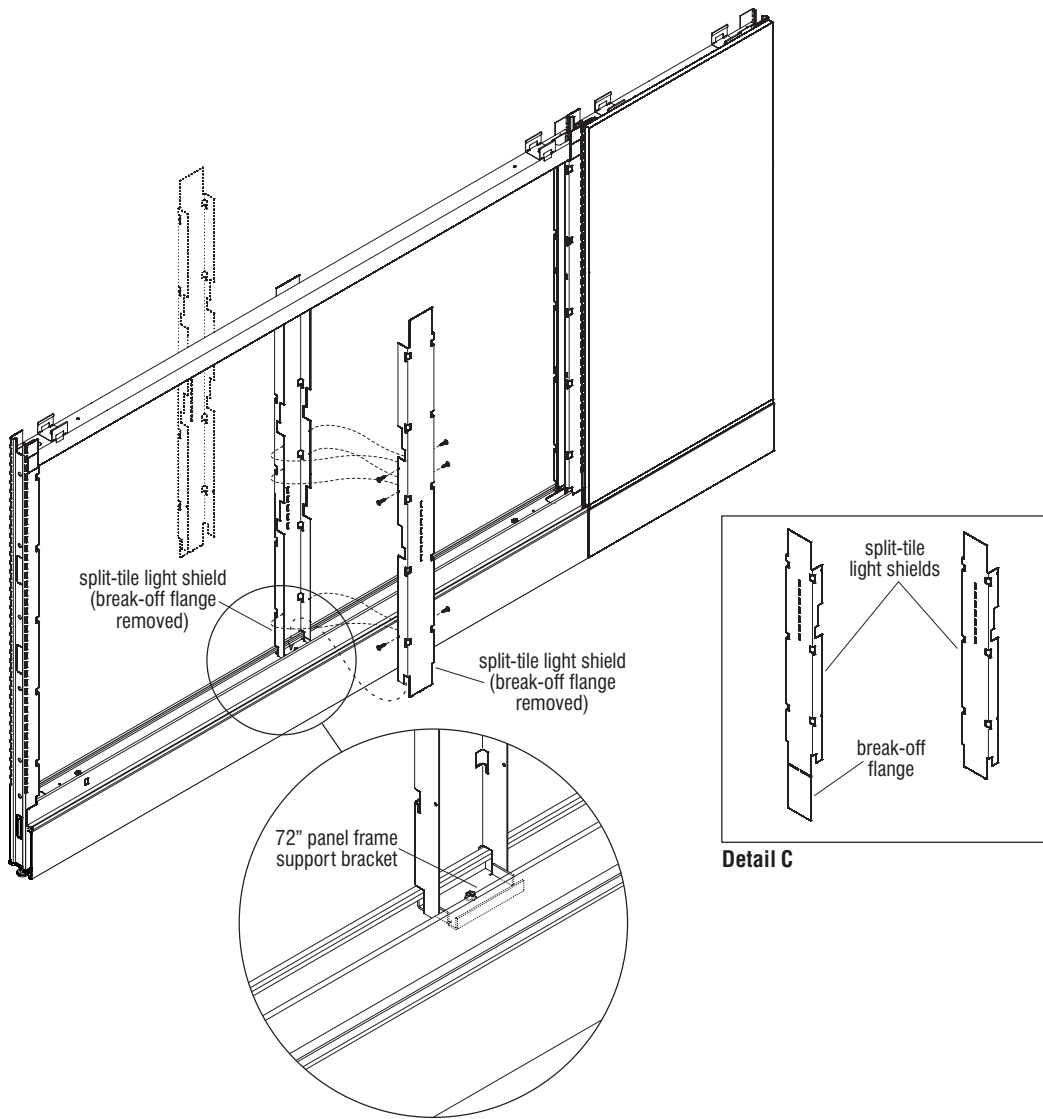

Figure 6 - 72" Panel Frame, Split-Tile Light Shield
3. Center and set the bottom edge of each light shield into the outside, top of the bottom trim channel as illustrated at each side of the panel frame. Use the panel frame support bracket to align both light shields directly on center. Make certain that the light shield is positioned to the outside of the trim at both sides, such that the notches in the bottom of the light shield capture the top of the bottom trim channel (Figure 6).
4. Measure horizontally at the top of the split-tile panel frame and mark the exact center, then center the pair of mated light shields and use a spirit level to assure the pair is exactly vertical. Finally, align the mounting holes at both sides and secure using a minimum of two #8 x 3/4" Phillips pan head (38.12.5048) at each side (Figure 6).